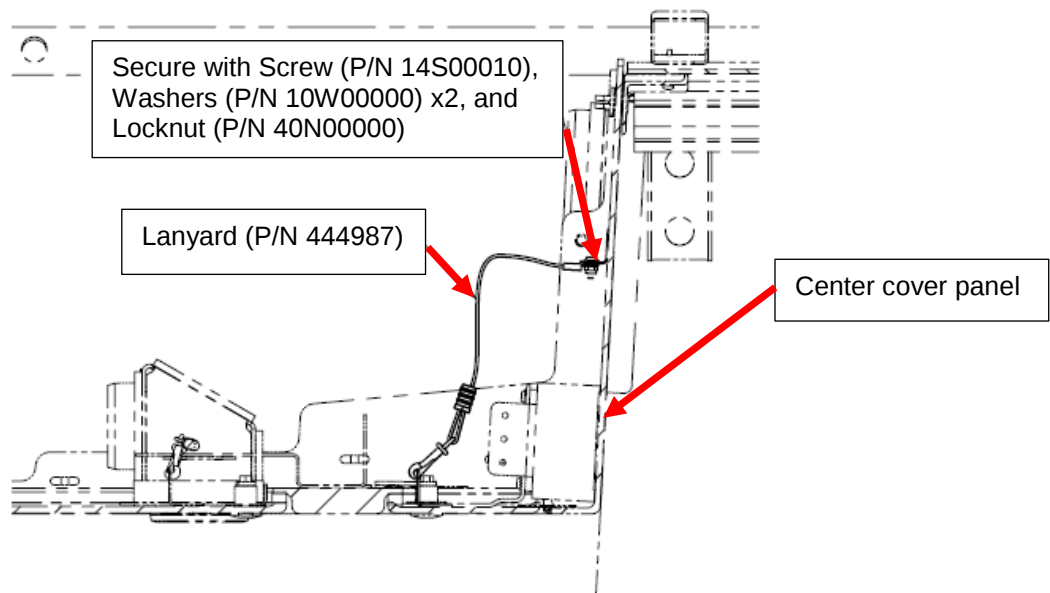

Figure 4 – Secure lanyards to HVAC C/O Brackets (Door in closed position - one lanyard location shown)
8. Secure Lanyards (P/N 444987) x2 to HVAC C/O Brackets (P/N 363132) x2 on center cover panel using Screws (P/N 14S00010) x2, Washers (P/N 10W00000) x4, and Locknuts (P/N 40N00000) x2. Refer to Figure 4.